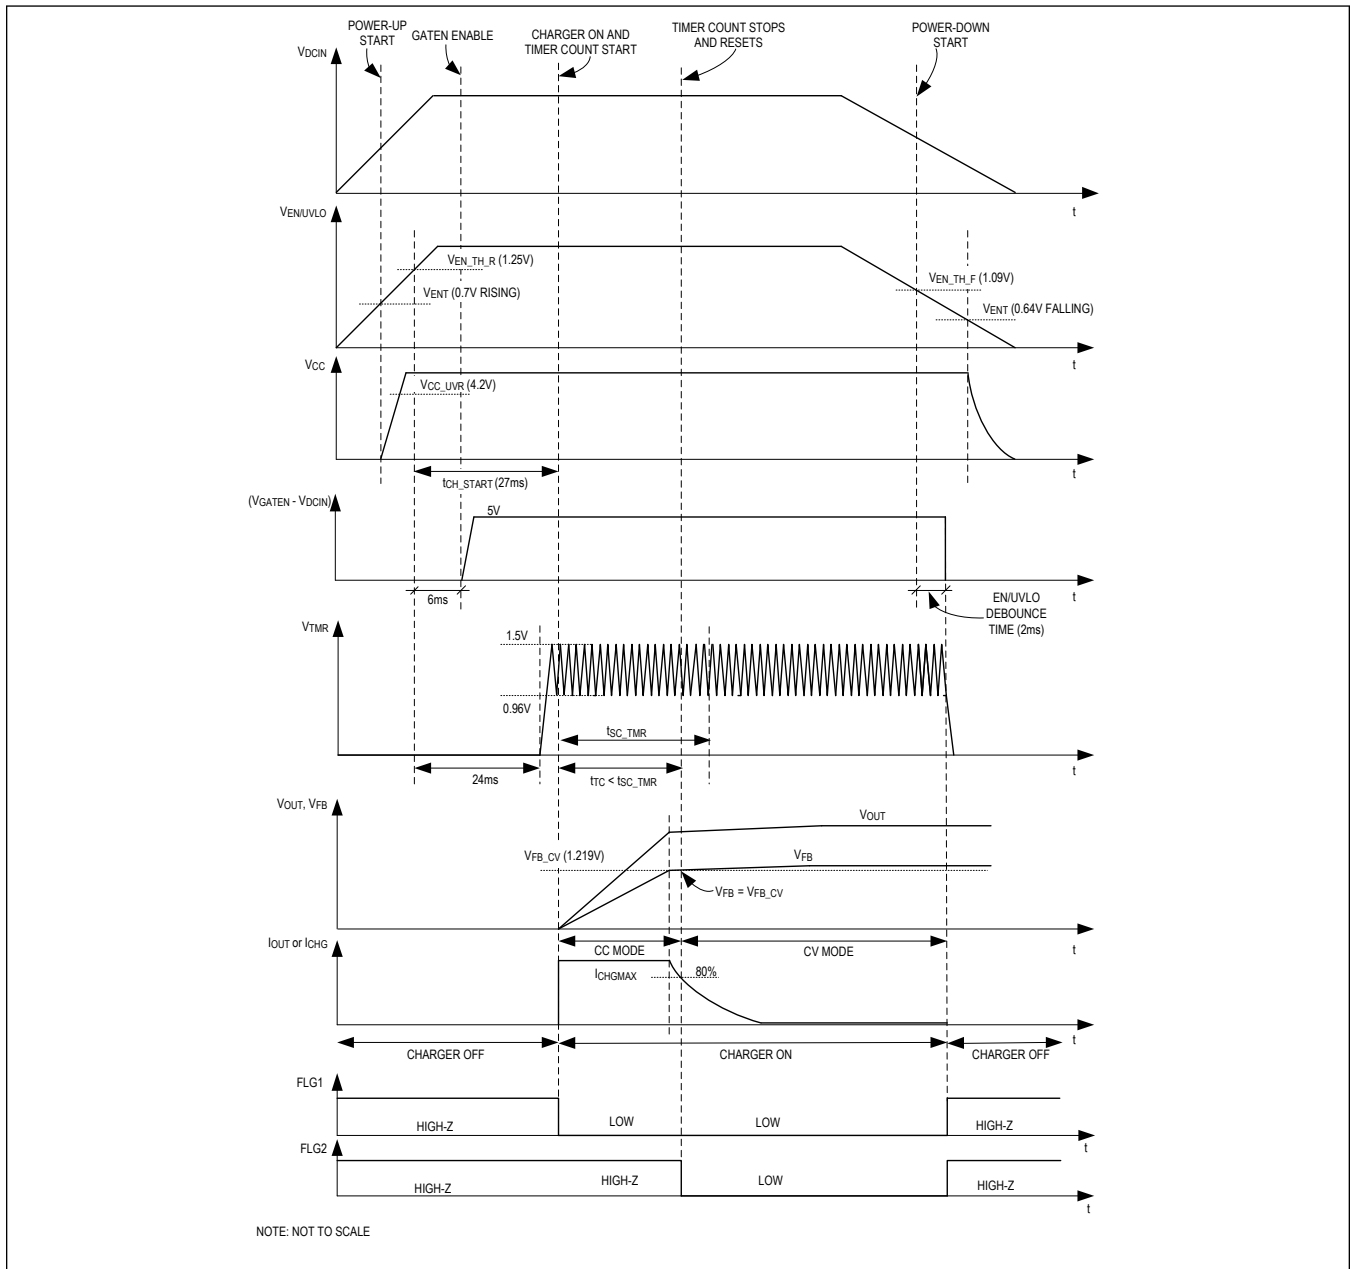

Figure 2. Charger Power-Up/Down Sequence
Figure 2 shows the MAX17701 power-up/-down sequence when DCIN voltage is applied/removed. When DCIN voltage reaches a level such that $V_{EN/UVLO}$ is around 0.7V (V_{ENT}) the INT-LDO regulator is enabled and V_{CC} rises. When V_{CC} rises above 4.2V (V_{CC-UVR}) and $V_{EN/UVLO}$ rises above 1.25V ($V_{EN_TH_R}$), the MAX17701 initiates EN/UVLO debounce and checks for hardware faults. If there are no hardware faults (see the Hardware Faults section) detected at power-up, the MAX17701 enables internal blocks during charger startup delay time t_{CH_START} . After this delay, the charger initiates LX switching and enters CC mode. In CC mode, the current is regulated at the CC mode charging current setting (I_{CHGMAX}). The safety timer counts the charging time in CC mode and if the output voltage reaches constant voltage mode ($V_{FB} > V_{FB_CV}$) within the safety timer setting (t_{SC_TMR}), the charger enters constant voltage (CV) mode and continues to operate.